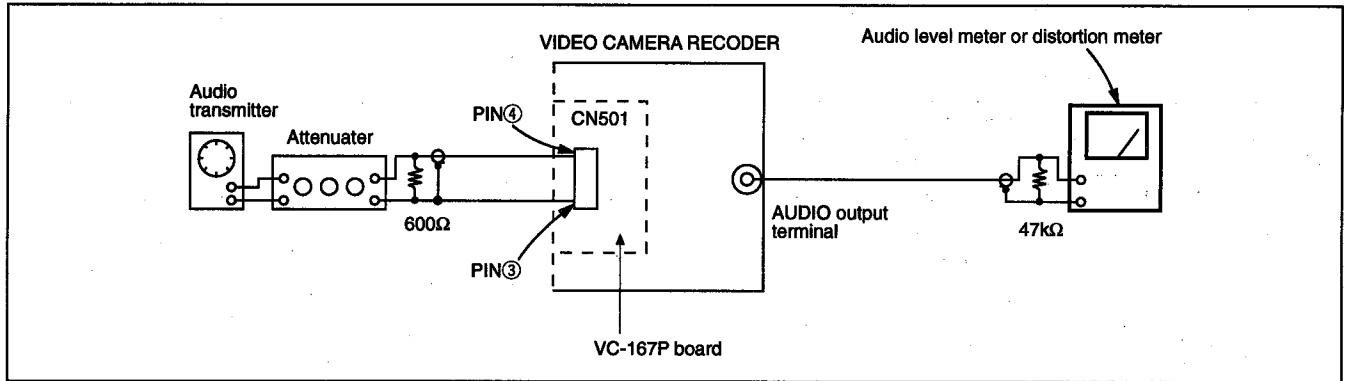

Fig.6-4-1
- Connect an audio input signal from VC-167 board CN501 as shown in Fig.6-4-1.